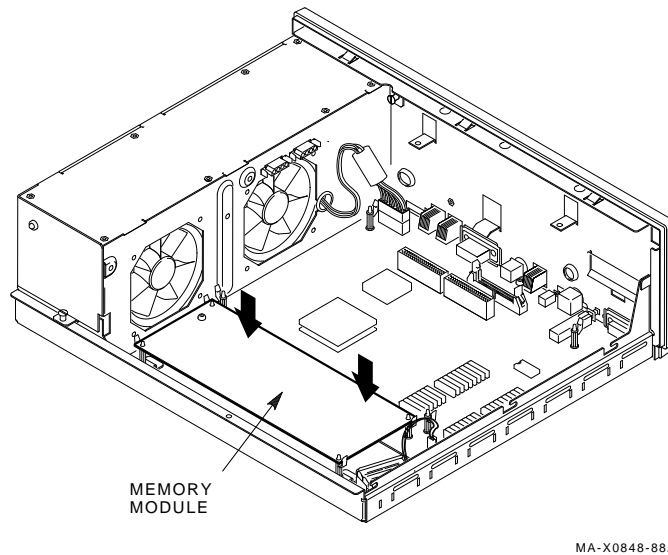

Figure 7-6 12 Mbyte Memory Module Installation
1. Install the new 12 Mbyte memory module (Figure 7-6).